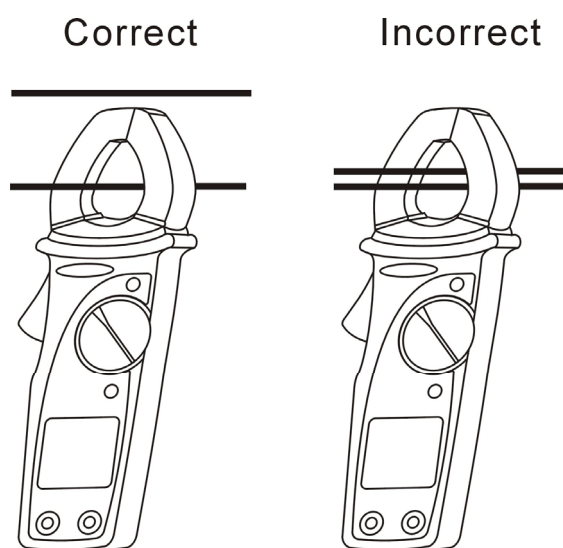

Fig. 6: Use of clamp during AC current measurement
2. Open the clamp and put the tested conductor in the center of the clamp jaw (see paragraph 4.1.2), refer to Fig. 6.
4. Press R-H key you can select manually the measurement ranges in cyclic order. Press R-H key 2 seconds to return to the